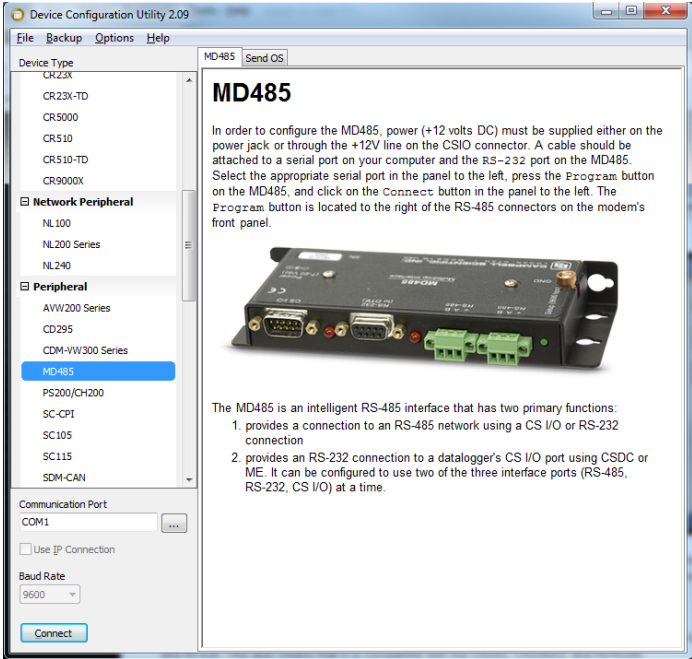

FIGURE 8-7. MD485 Device Configuration screen
3. Open *DevConfig*. Click **Peripheral**. Select *MD485*. Select the **Communication Port**. Push the **Program** button on the MD485. Click **Connect**. The program button is located to the right of the RS-485 connectors on the modem’s front panel (FIGURE 8-7).